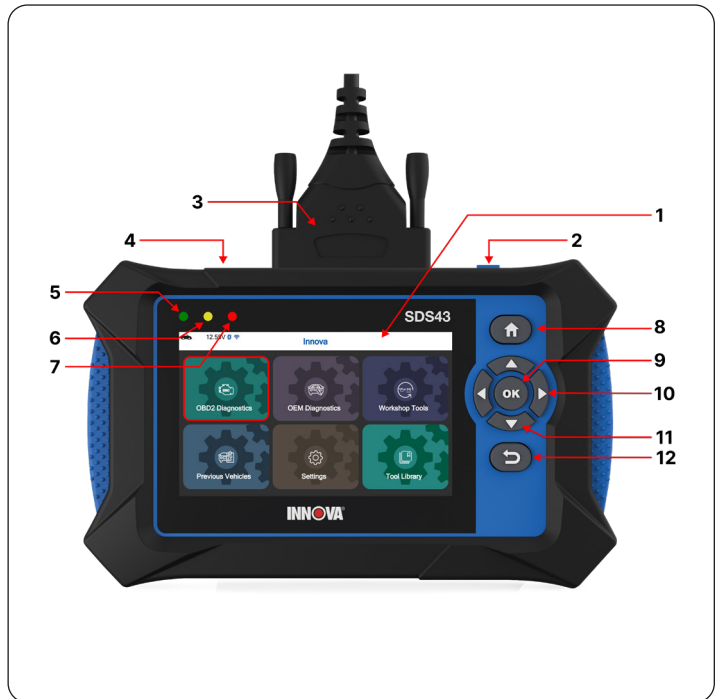

Figure 1. Controls and Indicators
See Figure 1 for the locations of items 1 through 12, below.